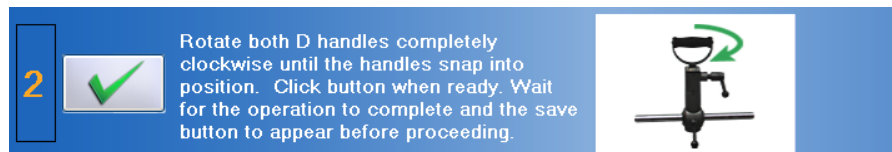

Figure 10-30. UTM - Set the Final Handle Rotation
Step 5. Click on  to set the final angle (Figure 10-30).